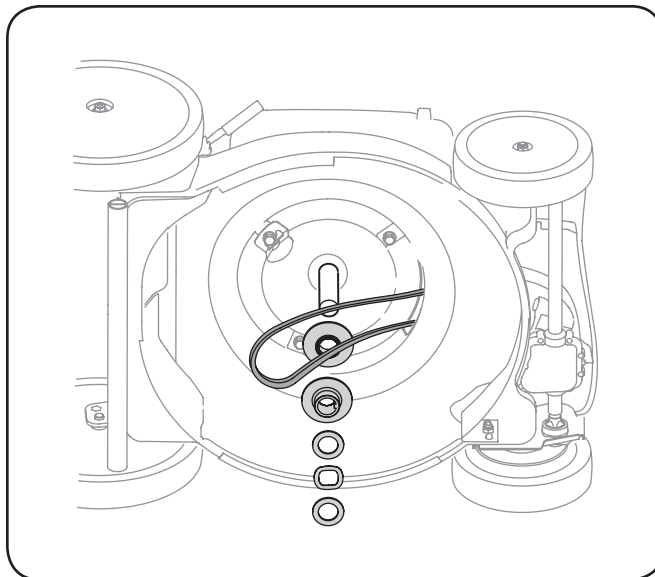

Figure 7-4
4. Slide belt off of engine pulley and thread through the opening in the deck. See Figure 7-4.